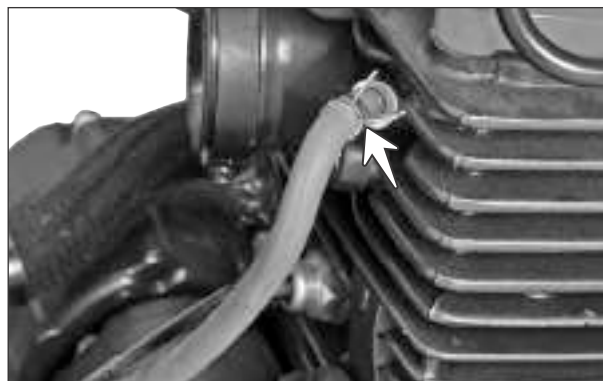

Fig. 3.27
- Remove the hose air cut valve of secondary air injection assembly by dislocating the hose clip. (Fig. 3.27)